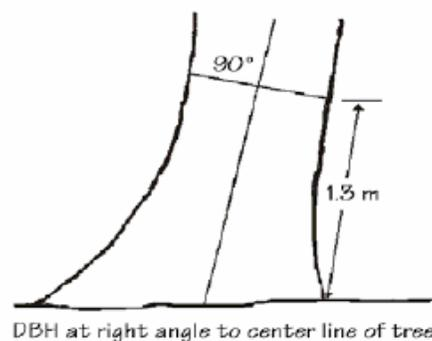

Fig. 5. DBH measurement on leaning trees; measure at right angles to centre line of tree.
- On trees which are leaning; DBH is to be taken on right angle to the center line of the tree. See Fig. 5.